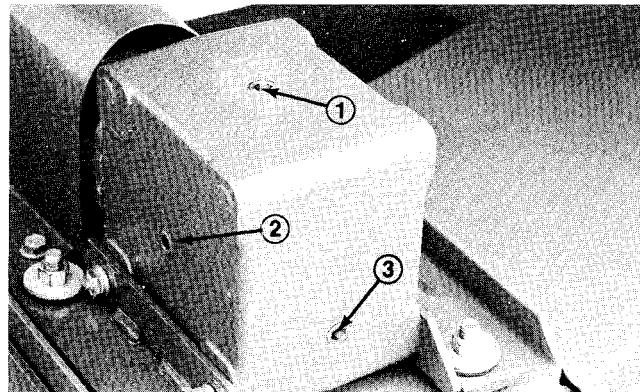

Figure 18
2. Lower cutting unit so castor wheels are on a level surface. Be sure all height-of-cut pins are in the same hole locations. Remove check plug (Fig. 18) from side of gear box and check level of lubricant. If level of lubricant is low, remove fill plug on top of gear box and add SAE 80-90 wt. gear lube until level is up to bottom of check hole.